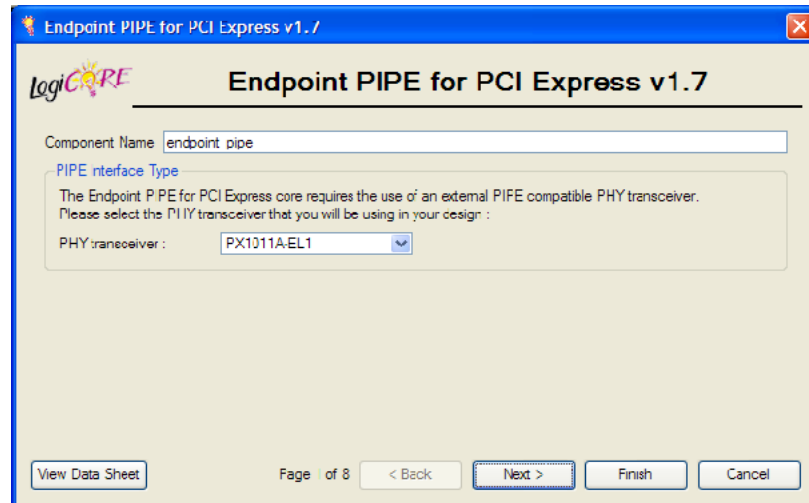

Figure 3-5: Endpoint PIPE for PCI Express Main Screen
6. Locate the Endpoint PIPE for PCI Express core in the core selection tree under Standard Bus Interfaces/PCI Express. Double-click the core name to display the main GUI screen. (Figure 3-5).